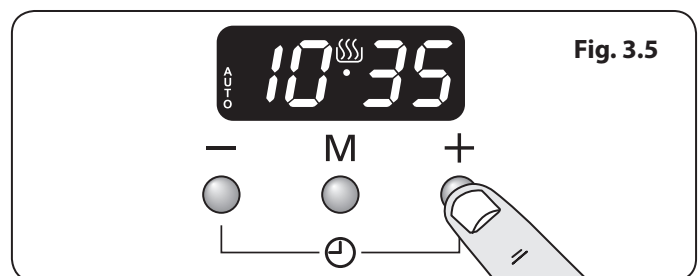

Fig. 3.5
2. Select the 'stop time' using the [+] or [-] buttons. The display will show the current time along with the 'AUTO' and Cooking [🔥] symbols (**Fig. 3.5**).